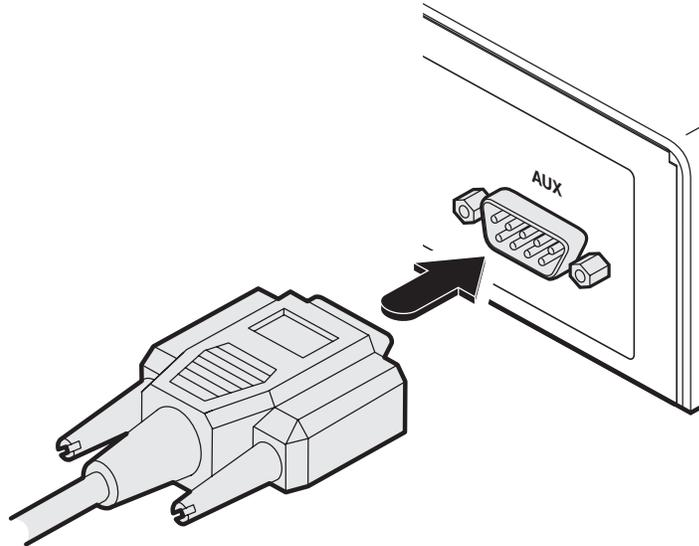

Figure 3-6. Connecting the serial link cable to local transmitter unit socket.
- 2 Connect the supplied serial 'null-modem' cable (see Appendix D for pin-out) between a vacant serial port on your computer and the AUX port on the right hand side of the ServSwitch Agility rear panel. See Figure 3-6.